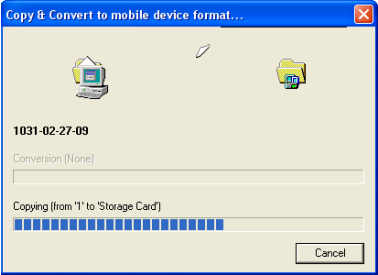

Figure 8-5. Export and Conversion in Progress
3. When the process of transferring the file(s) from the computer to the Mobile Device begins, the *Copy & Convert Progress* window displays the export and conversion in progress (Figure 8-5 on page 8-8).